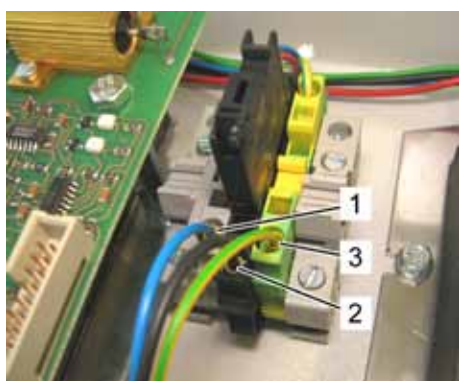

Fig. 77: Connection with 115/230 V AC
1. Connect the conductors of the power supply according to Fig. 77. For details refer to the respective terminal diagrams.